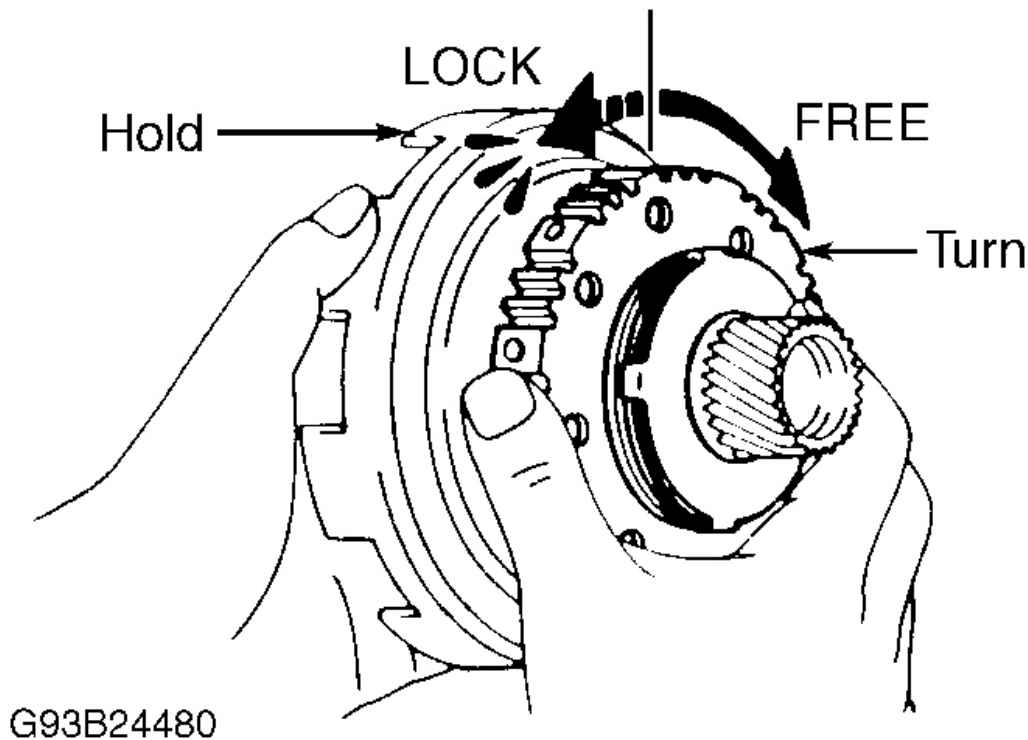

Fig. 30: Checking No. 1 One-Way Clutch
1. Check No. 1 one-way clutch operation. Hold sun gear (shell) and turn hub. Hub should rotate freely clockwise and lock when turned counterclockwise. See **Fig. 30** . Remove 2nd brake hub and No. 1 one-way clutch from sun gear.